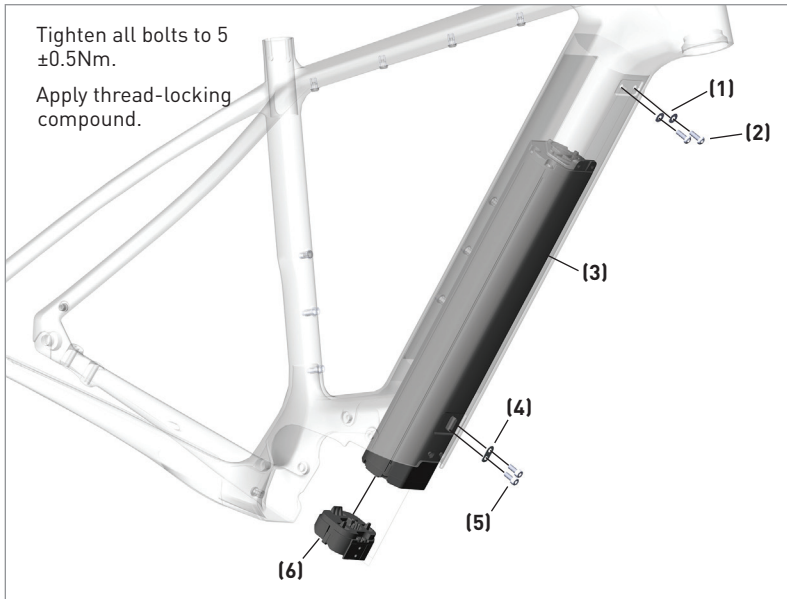

Figure 7
4. When reinstalling the battery assembly, use the torque values listed in Figure 7.